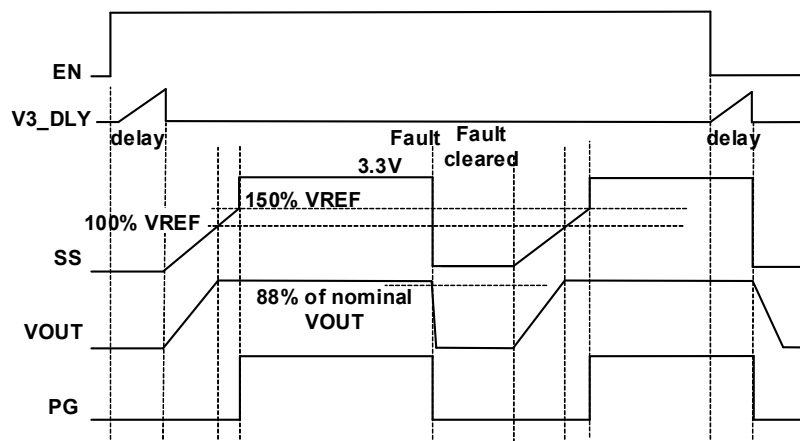

Figure 65. Power-Good Signal
The RAA211651 provides a Power-Good (PG) signal that indicates the output voltage is within a specified tolerance of its target level and no fault condition exists. The PG pin is the open drain of a MOSFET. For logic level output voltages, connect it to a voltage source through a pull-up resistor. At power-on, the PG signal is held low before SS is ready, and it is asserted when the SS voltage reaches 1.2V and the FB voltage is within the regulation window. When the FB voltage goes 12% below or 12% above the nominal value, PG is pulled low, as shown in Figure 65. Any fault condition forces PG low until the fault condition is cleared by attempts to soft-start.